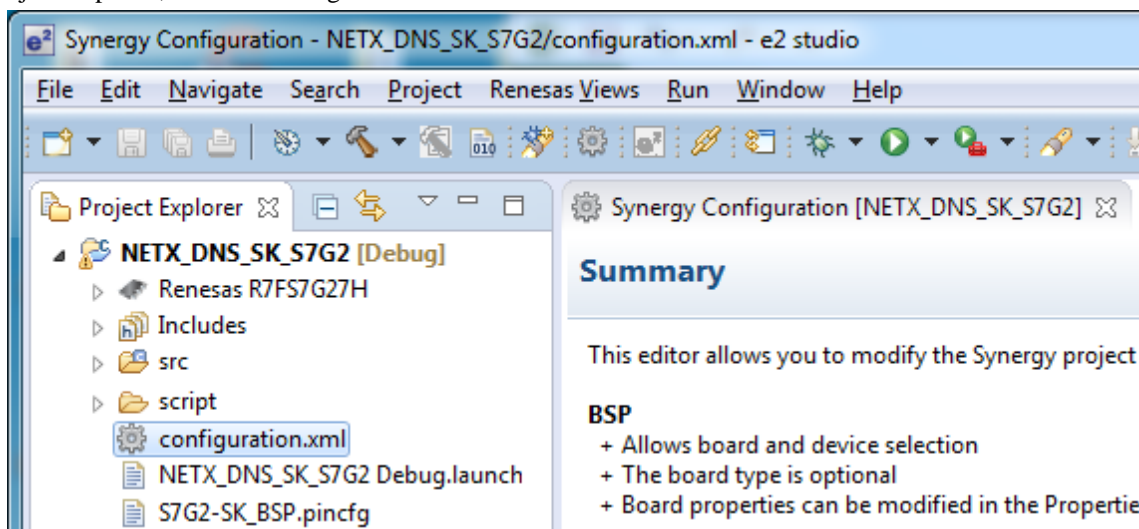

Figure 2.12 Project Explorer
- Open the Synergy Configuration, if not already open, by double-clicking the `configuration.xml` file in the Project Explorer, as shown in Figure 2.12.